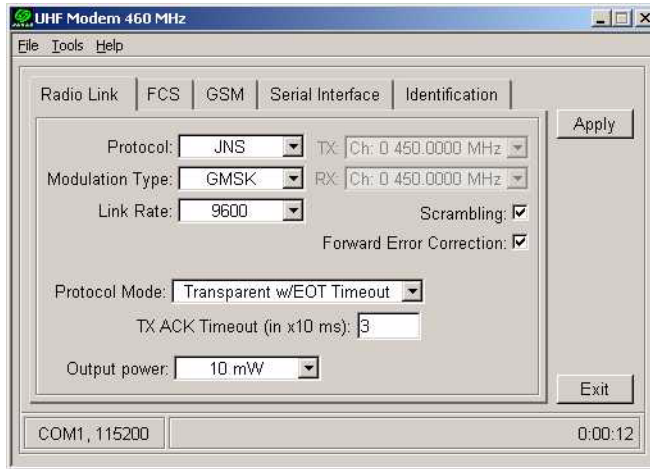

Figure 2-23. Radio Link Tab
1. From the **Protocol** control of the **Radio Link** tab, select between JNS and PDL (Figure 2-23):
5. Select **Scrambling** (see Figure 2-23 on page 60).
6. For a maximum data communication reliability, select the **Forward Error Correction** check box (see Figure 2-23 on page 60).
10. From the **Output Power** control (see Figure 2-23 on page 60), select the level of RF transmit power from 10 mW to 2 W.
3. Select **Scrambling** (see Figure 2-23 on page 60). Must be the same for base and rover.
6. From the **Output Power** control (see Figure 2-23 on page 60), set the level of RF transmit power to 10 mW.